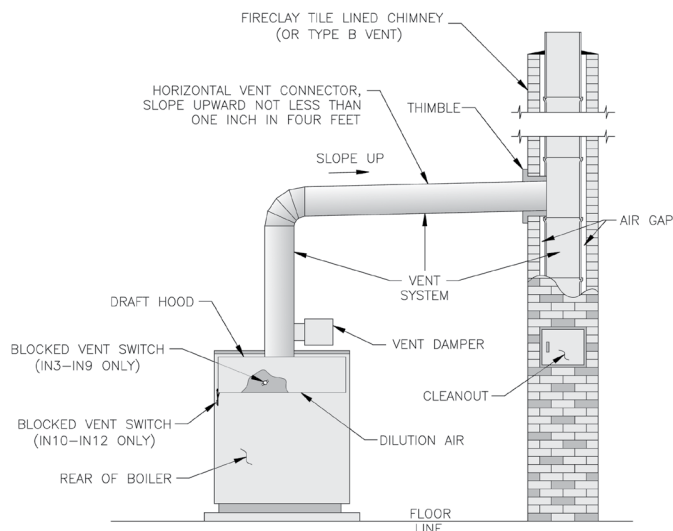

Figure 26: Typical Vent Installation
D. Install Vent Connector from draft hood or vent damper to chimney. See Figure 26.